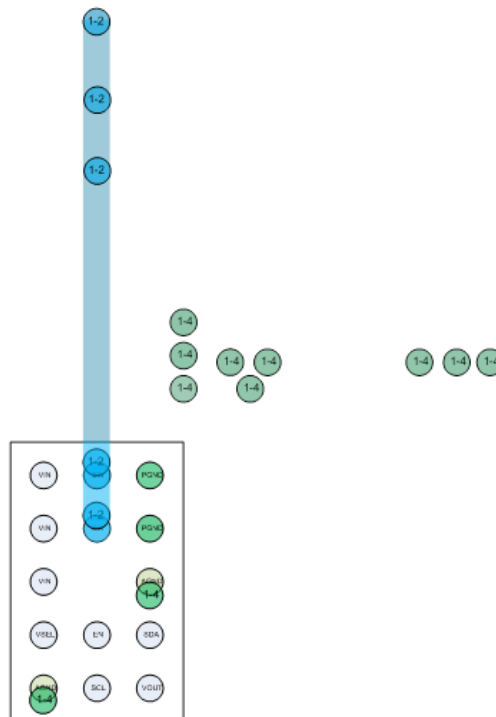

Figure 25. Layer 2
1. The input capacitor ( $C_{IN}$ ) should be connected as close as possible to the VIN and GND pins. Connect to VIN and GND using only top metal. Do not route through vias (see Figure 25).
2. Place the inductor (L) as close as possible to the IC. Use short wide traces for the main current paths.